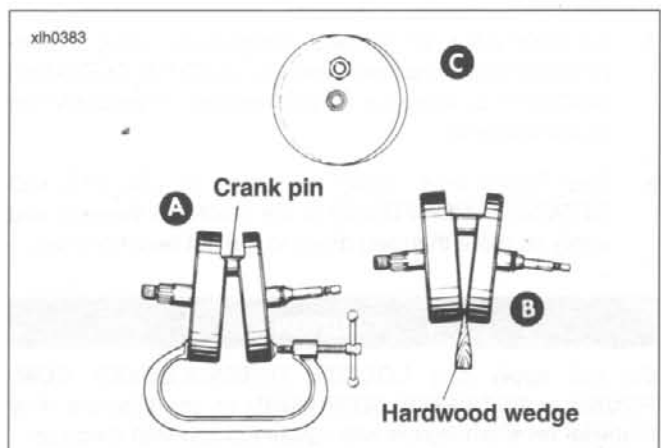

Figure 3-114. Correcting Flywheel Alignment
11. See Figure 3-114. Flywheel may be out of true three ways (a, b and c) or a combination of two of the three ways.